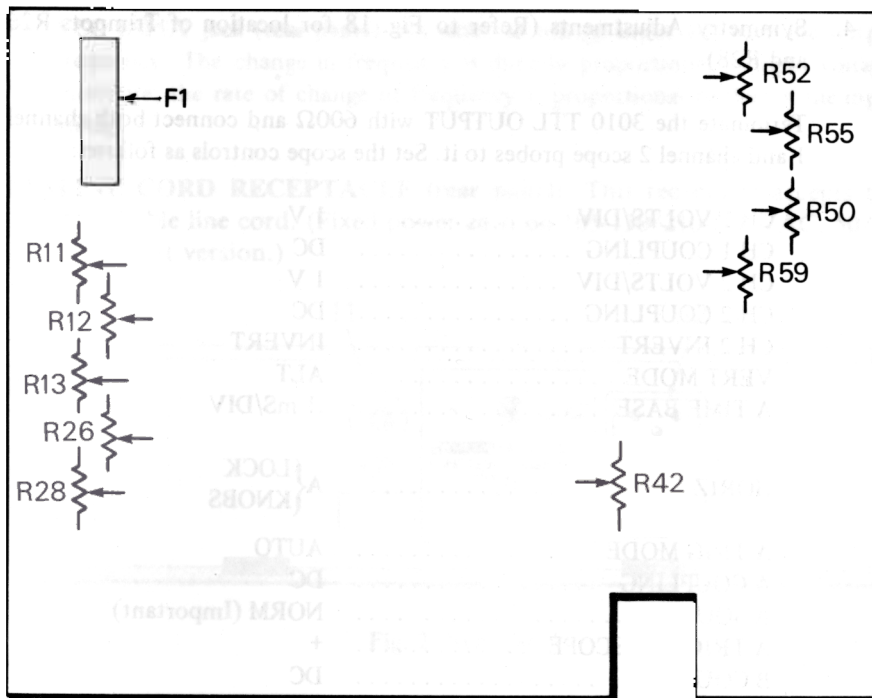

Fig. 18. Trimpot location.
Refer to Fig. 18 for trimpot location and Table for trimpot function.
4. Symmetry Adjustments (Refer to Fig. 18 for location of Trimpots R26 and R28).
3. Change fuse F1 (see Fig. 18 for location). Use $\frac{1}{8}$ A, 3AG slow blow for 105-130 volt operation, or $\frac{1}{4}$ A, 3AG slow blow for 210-260 volt operation.